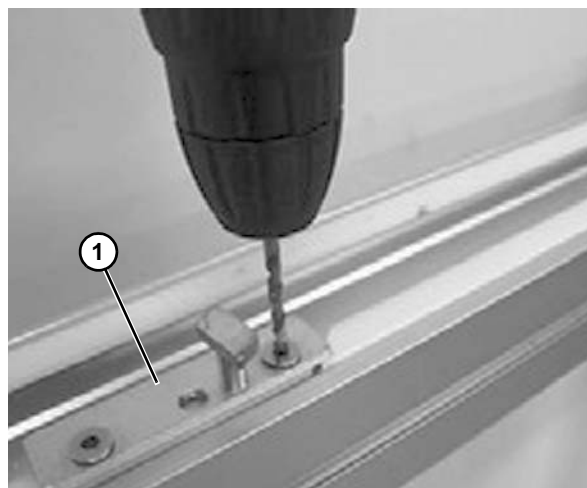

Figure 40
1. Drill two holes near the beginning of each slide rail section. Use the drill fixture (**Figure 40, item 1**) to ensure clean-cut holes and the correct location of the holes. The holes must be at the leading edge of the joint piece, in the direction of travel, to hold the slide rail in place when the conveyor is in use. Use a well sharpened 4.3mm, #18, or 11/64" drill bit.